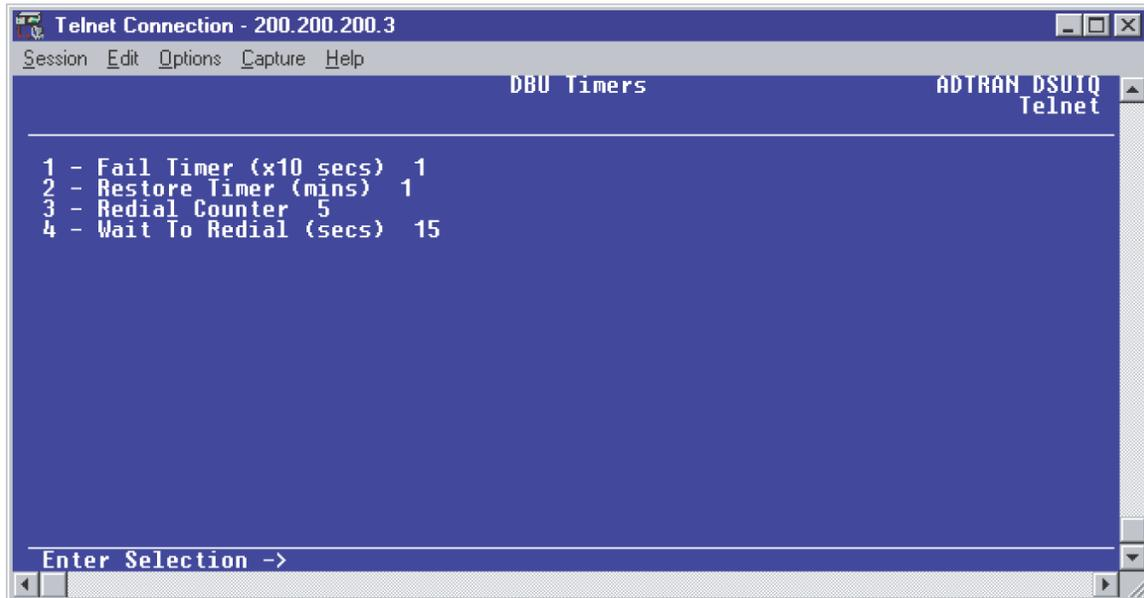

Figure 53. DBU Timers Menu
1. Press **<ESCAPE>** once to get back to the **CONFIGURE DIAL BACKUP** screen shown in Figure 49. Select option 4, **DBU TIMERS** and press **<ENTER>**. The menu screen shown in Figure 53 is displayed. The default values for the parameters on this screen are shown.